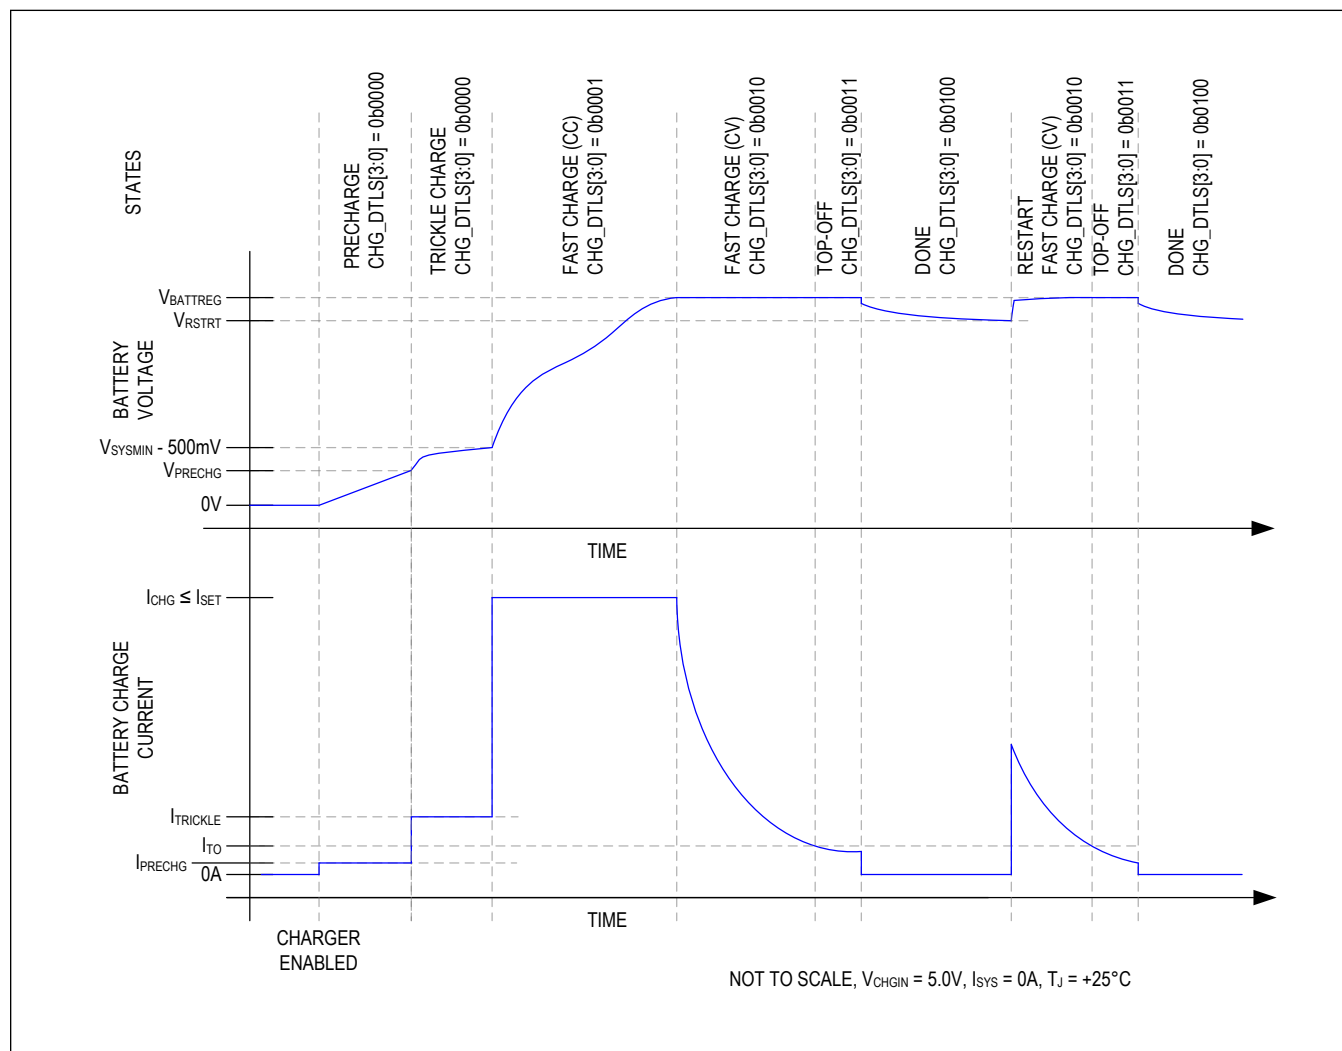
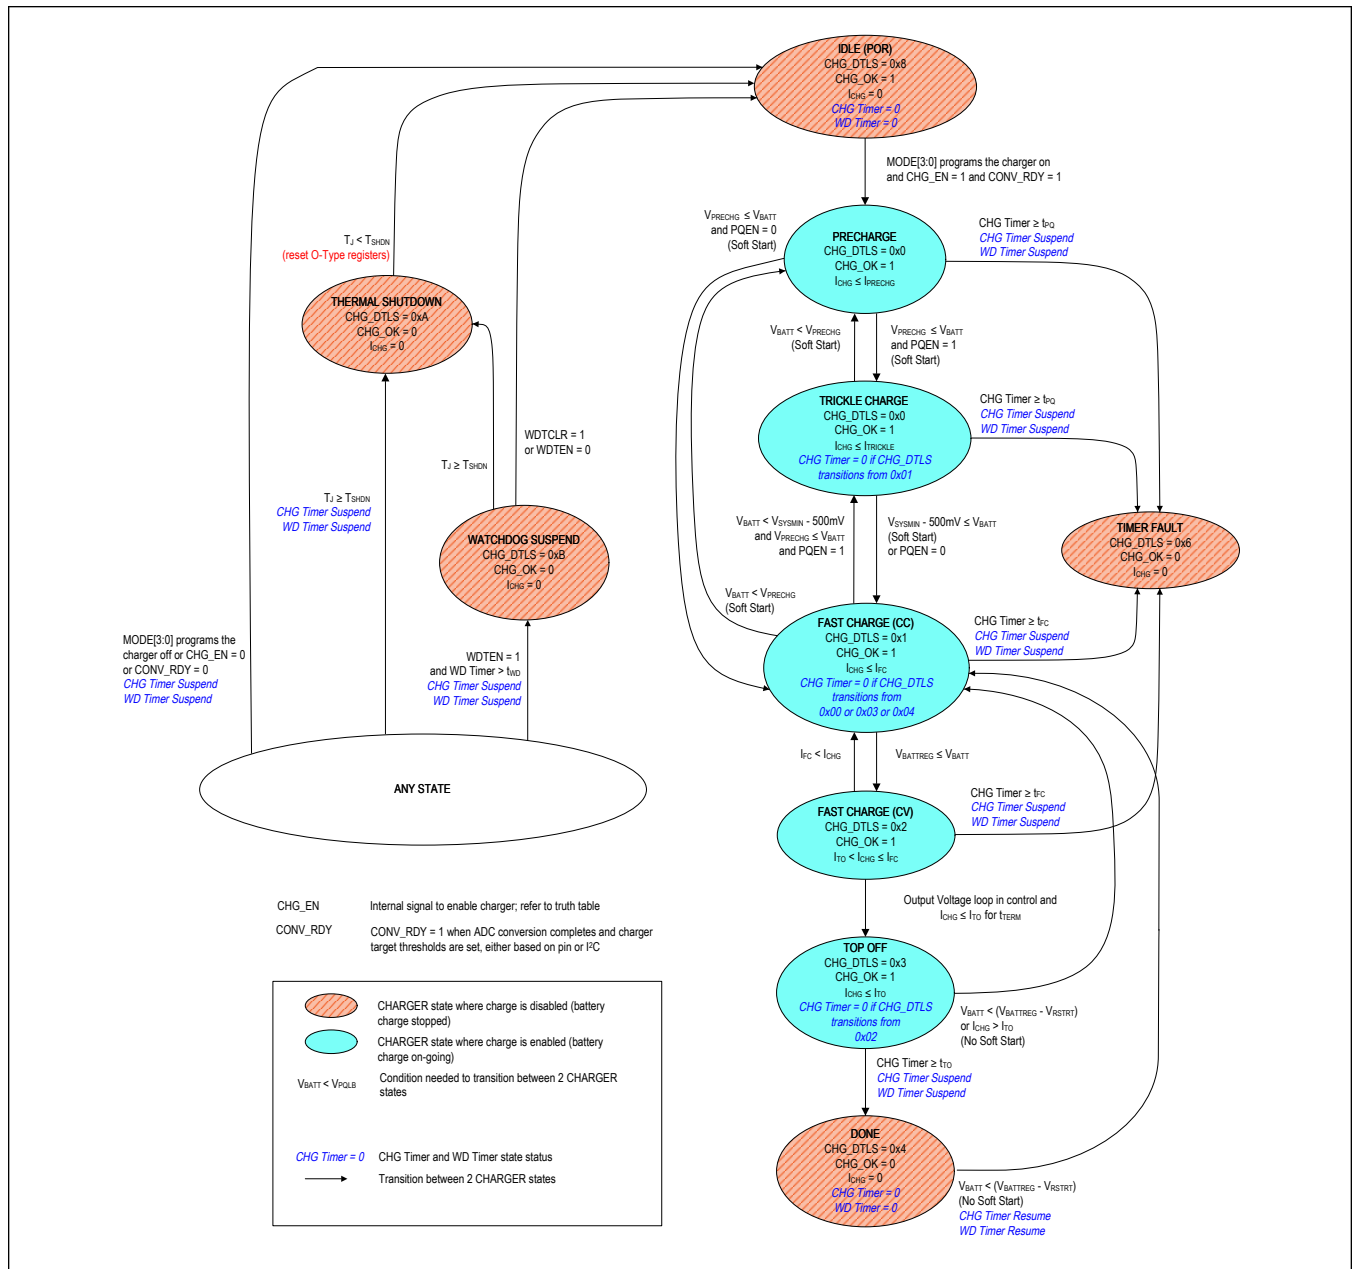

Figure 1. Li Battery Charge Profile
Figure 2. Charger State Diagram
The IC utilizes several charging states to safely and quickly charge batteries as shown in Figure 1 and Figure 2. Figure 1 shows an exaggerated view of a Li+/Li-Poly battery progressing through the following charge states when there is no system load and the die and battery are close to room temperature: Prequalification \rightarrow Fast-charge \rightarrow Top-off \rightarrow Done.
From any state shown in Figure 2, except thermal shutdown, the “no input power or charger disabled” state is entered whenever the charger is programmed to be off or the charger input CHGIN is invalid. After being in this state for t_{SCIDG} , CHG_DTLS is set to 0x08 and CHG_OK is set to 1. A CHG_I interrupt is generated if CHG_OK was 0 previously.
As shown in Figure 2, the charger enters the precharge state when the battery voltage is less than V_{PRECHG} . After being in this state for t_{SCIDG} , a CHG_I interrupt is generated if CHG_OK was 0 previously, CHG_OK is set to 1, and CHG_DTLS is set to 0x00. In the precharge state, charge current into the battery is I_{PRECHG} .
As shown in Figure 2, the charger state machine is in trickle charge state when $V_{PRECHG} < V_{BATT} < V_{SYSMIN} - 500mV$. After being in this state for t_{SCIDG} , a CHG_I interrupt is generated if CHG_OK was 0 previously, CHG_OK is set to 1, and CHG_DTLS = 0x00.
As shown in Figure 2, the charger enters the fast-charge constant current (CC) state when $V_{\text{SYSMIN}} - 500\text{mV (typ)} < V_{\text{BATT}} < V_{\text{BATTREG}}$. After being in the fast-charge CC state for t_{SCIDG} , a CHG_I interrupt is generated if CHG_OK was 0 previously, CHG_OK is set to 1, and CHG_DTLS = 0x01.
As shown in Figure 2, the charger enters the fast-charge constant voltage (CV) state when the battery voltage rises to V_{BATTREG} from the fast-charge CC state. After being in the fast-charge CV state for t_{SCIDG} , a CHG_I interrupt is generated if CHG_OK was 0 previously, CHG_OK is set to 1, and CHG_DTLS = 0x02.
In the fast-charge CV state, the battery charger maintains V_{BATTREG} across the battery and the charge current is less than or equal to I_{FC} . As shown in Figure 1, charger current decreases exponentially in this state as the battery becomes fully charged.
As shown in Figure 2, the top-off state can only be entered from the fast-charge CV state when the charger current decreases below I_{TO} for t_{TERM} . After being in the top-off state for t_{SCIDG} , a CHG_I interrupt is generated if CHG_OK was 0 previously, CHG_OK is set to 1, and CHG_DTLS = 0x03. In the top-off state the battery charger maintains $V_{BATTREG}$ across the battery and typically the charge current is less than or equal to I_{TO} .
As shown in Figure 2, the battery charger enters its done state after the charger has been in the top-off state for t_{TO} . After being in this state for t_{SCIDG} , a CHG_I interrupt is generated only if CHG_OK was 0 previously, CHG_OK is set to 0, and CHG_DTLS = 0x04.
The battery charger provides both a charge timer and a watchdog timer to ensure safe charging. As shown in Figure 2, the charge timer prevents the battery from charging indefinitely. The time that the charger is allowed to remain in its prequalification states is t_{PQ} . The time that the charger is allowed to remain in the fast-charge CC and CV states is t_{FC} which is programmable with FCHGTIME. Finally, the time that the charger is in the top-off state is t_{TO} which is programmable with TO_TIME. Upon entering the timer fault state, a CHG_I interrupt is generated without a delay, CHG_OK is cleared, and CHG_DTLS = 0x06.
The charger is off in the timer fault state. The charger can exit the timer fault state when the charger is programmed to be off then on again through the MODE bits or when DISQBAT pin is toggled from L-H-L. Alternatively, the charger input can be removed and re-inserted to exit the timer fault state (see the “ANY STATE” bubble in Figure 2).
The battery charger provides both a charge timer and a watchdog timer to ensure safe charging. As shown in Figure 2, the watchdog timer protects the battery from charging indefinitely in the event that the host hangs or otherwise cannot communicate correctly. The watchdog timer is disabled by default with WDTEN = 0. Enable the feature by setting WDTEN = 1. With watchdog timer enabled, the host controller must reset the watchdog timer within the timer period (t_{WD}) in order for the charger to operate properly. Reset the watchdog timer by programming WDTCLR = 0x01.
As shown in Figure 2, the state machine enters the thermal shutdown state when the junction temperature (T_J) exceeds the device's thermal-shutdown threshold (T_{SHDN}). When T_J is close to T_{SHDN} , the charger would have already folded back the input current to 0A (see the Thermal Foldback section for more details), so the charger and the DC-DC are effectively off. Upon entering this state, CHG_I interrupt is generated if CHG_OK was 1 previously, CHG_OK is cleared, and CHG_DTLS = 0x0A.